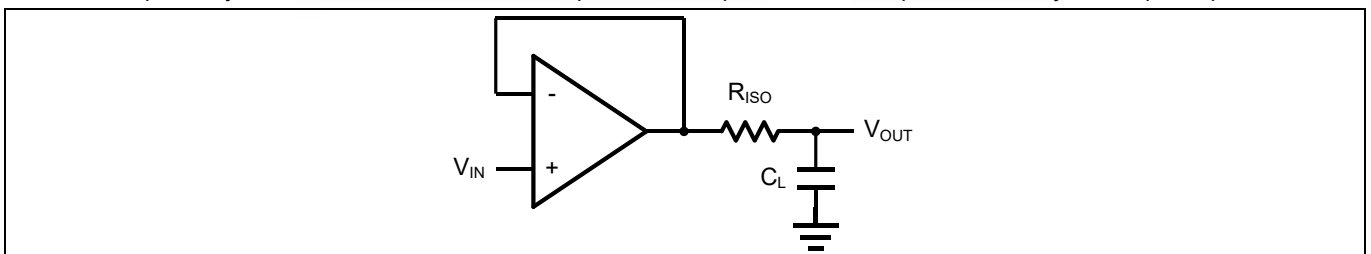
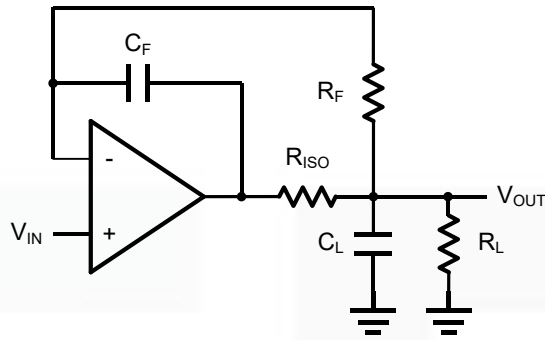

Figure 2 Indirectly Driving a Capacitive Load Using Isolation Resistor
Figure 3. Indirectly Driving a Capacitive Load with DC Accuracy
The GS6012B/6014B is optimized for bandwidth and speed, not for driving capacitive loads. Output capacitance will create a pole in the amplifier's feedback path, leading to excessive peaking and potential oscillation. If dealing with load capacitance is a requirement of the application, the two strategies to consider are (1) using a small resistor in series with the amplifier's output and the load capacitance and (2) reducing the bandwidth of the amplifier's feedback loop by increasing the overall noise gain. Figure 2 shows a unity gain follower using the series resistor strategy. The resistor isolates the output from the capacitance and, more importantly, creates a zero in the feedback path that compensates for the pole created by the output capacitance.
The circuit in Figure 3 is an improvement to the one in Figure 2.  $R_F$  provides the DC accuracy by feed-forward the  $V_{IN}$  to  $R_L$ .  $C_F$  and  $R_{ISO}$  serve to counteract the loss of phase margin by feeding the high frequency component of the output signal back to the amplifier's inverting input, thereby preserving the phase margin in the overall feedback loop. Capacitive drive can be increased by increasing the value of  $C_F$ . This in turn will slow down the pulse response.